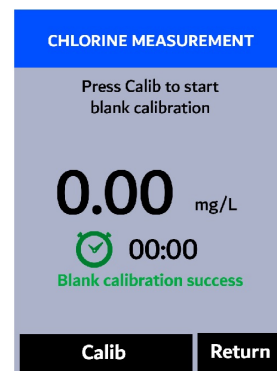

Figure 33.
12. The message **"Blank calibration success"** will appear on the bottom of the display (Figure 33).